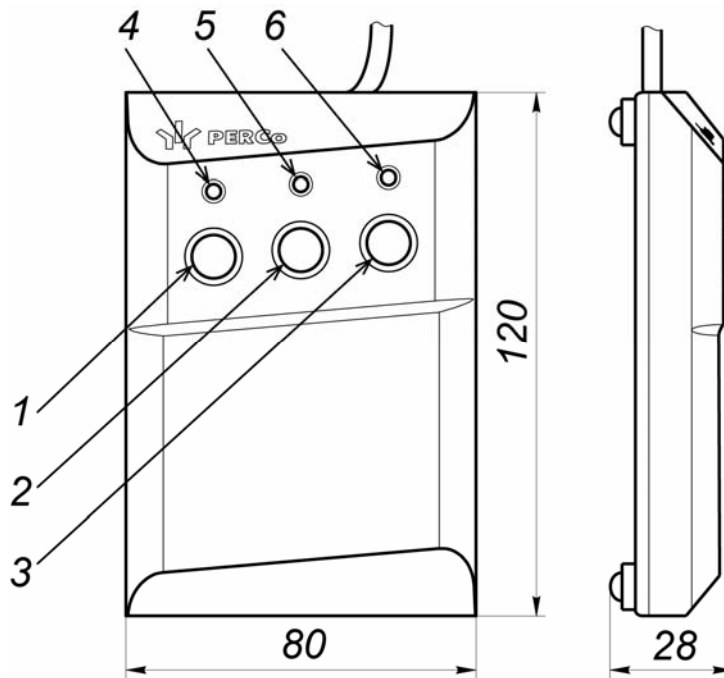

Figure 4. RC panel overview and dimensions
The RC-panel (17) is a small desktop device made of shockproof ABS plastic that serves for manual setting of the operating modes and indication thereof. RC-panel is connected to the control board (6) with flexible multicore cable (14), included into delivery set. The RC-panel overview is shown in Figure 4.